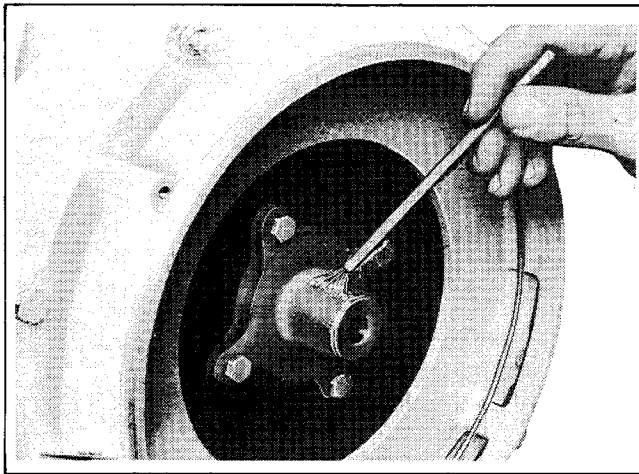

Figure 8-1. Coat Stub Shaft
2. Clean stub shaft taper and paint with copper-graphite or some other type of releasing agent (Figure 8-1).